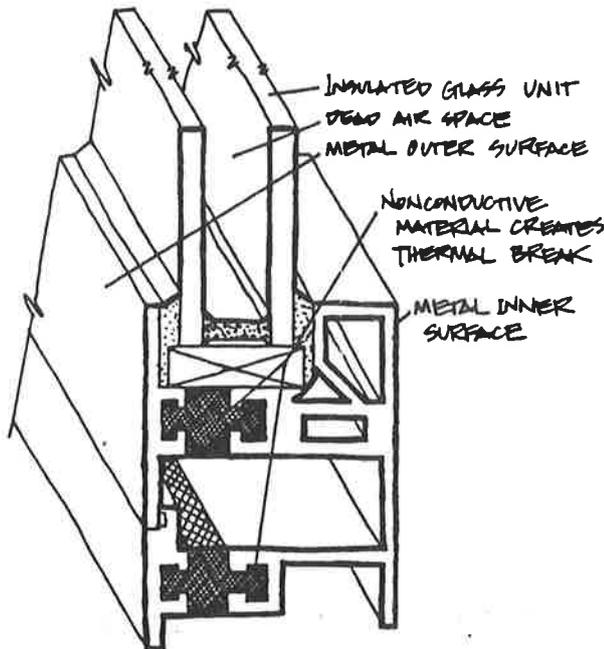

Figure 5. Thermally Broken Insulated Glass Unit
them. (Figure 5) Sometimes the air space is filled with another gas as mentioned previously. Typically, the edge of the glass is sealed around a metal spacer with any of a number of chemical sealants.
2. Metal-framed units with a thermal break in the frame are 8-20% better than metal frames without the thermal break. (Figure 5)